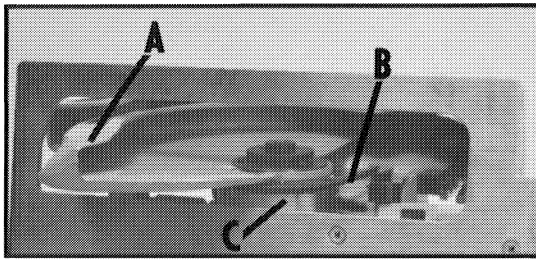

Fig. 5
WARNING: The telescoping guard (A), Fig. 5, is a safety device important to your protection. Every time you use the saw, see that the telescoping guard rotates freely and returns quickly and completely to its closed position. Frequently check the retracting spring (B), Fig. 5, to see that it is functional and free of foreign matter. At least once a month or when the guard is not operating properly, remove any accumulated sawdust, pitch, etc. from the area around the hub (C) of the telescoping guard, and add a few drops of light machine oil at each end of the hub. NEVER block or wedge the telescoping guard in the open position.